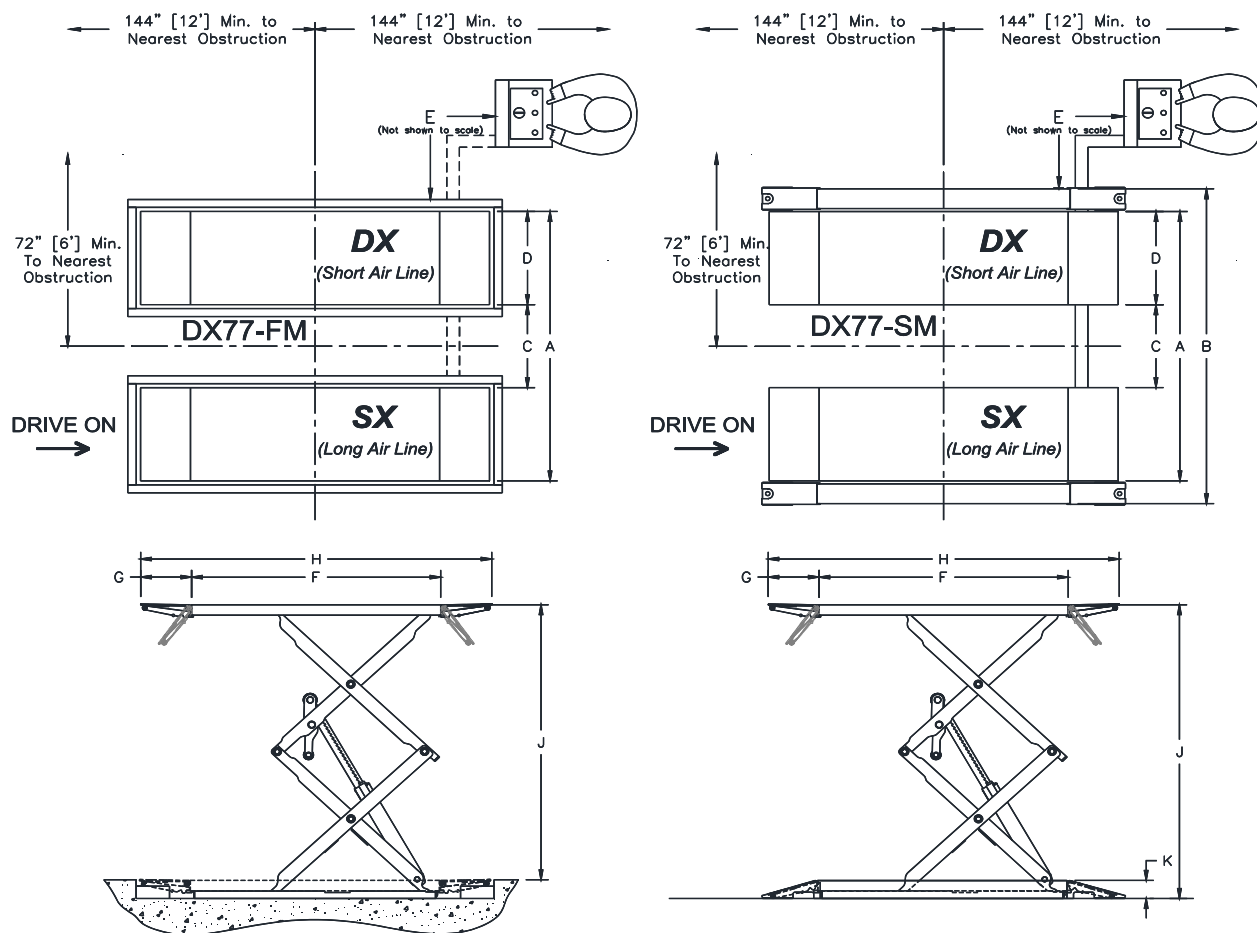

Fig. 1 - General Specifications
- 1) Layout the service bay according to the architect's plans or owners instructions (*see Fig. 1*). **Failure to install in this orientation can result in personal and property damage.** Be certain that the proper conditions exist, see page 3.